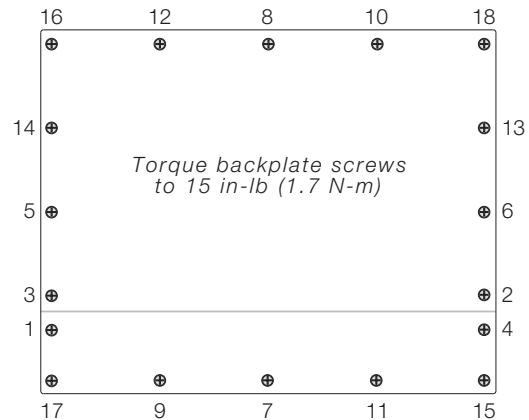

Figure 2-2. 820i/920i Enclosure Backplate
8. For indicator models that include a backplate, position the backplate over the enclosure and reinstall the backplate screws. For the 820i or 920i universal models, use the torque pattern shown in Figure 2-2 to prevent distorting the backplate gasket. Torque screws to 15 in-lb (1.7 N-m).